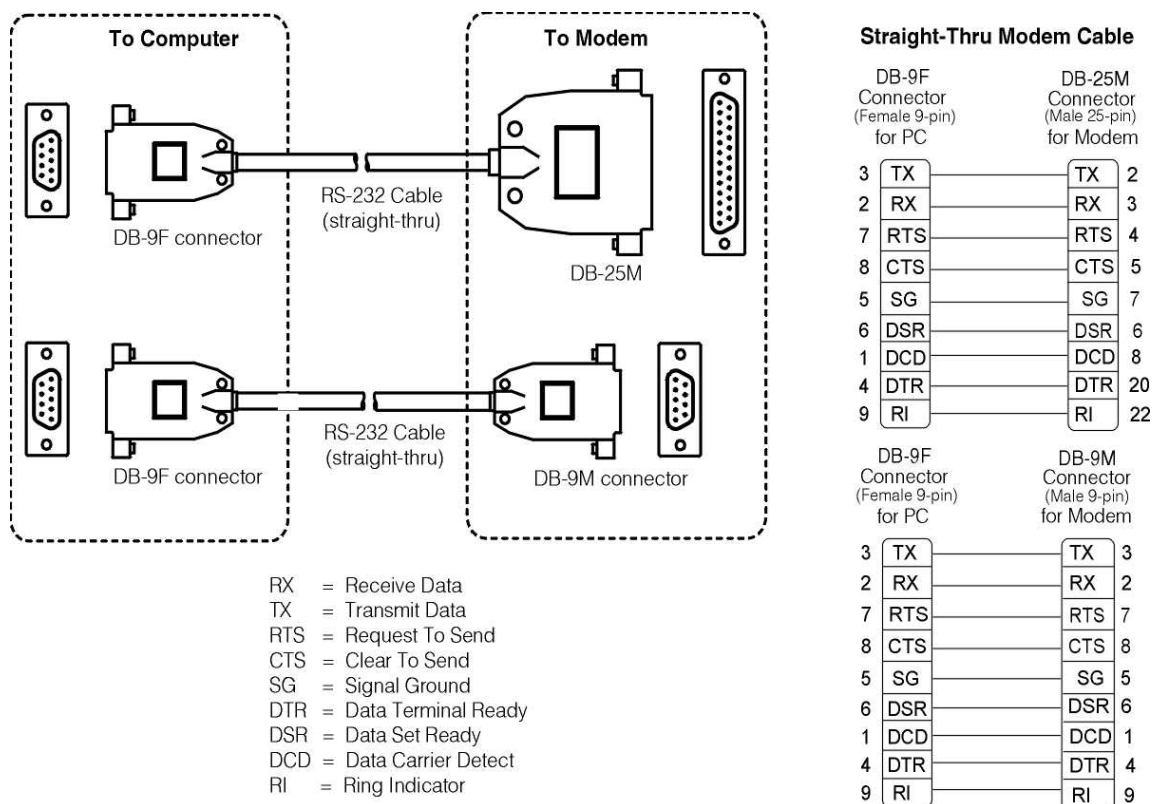

Figure 6. RS-232 cable pin connections (PC to external modem)
- ! Pin connections for the cable wires must be as shown in Figure 6.